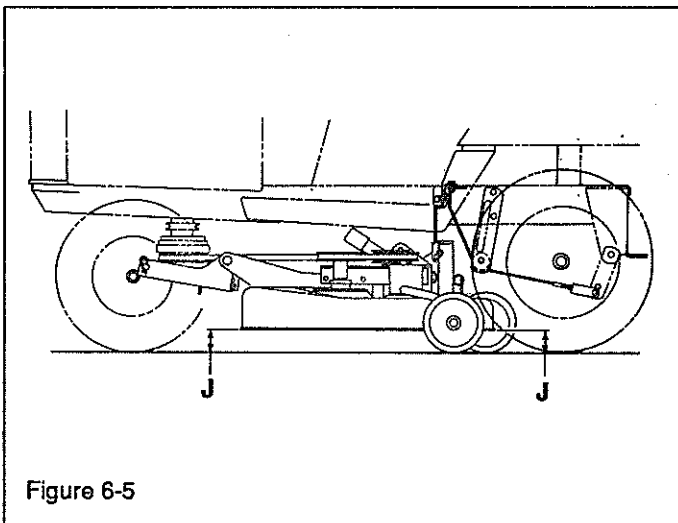

Figure 6-5
- c. Level deck from front to rear. Measure the distance from the front edge of the blades to the ground and from the rear edge of the blades to the ground (J, Figure 6-5).